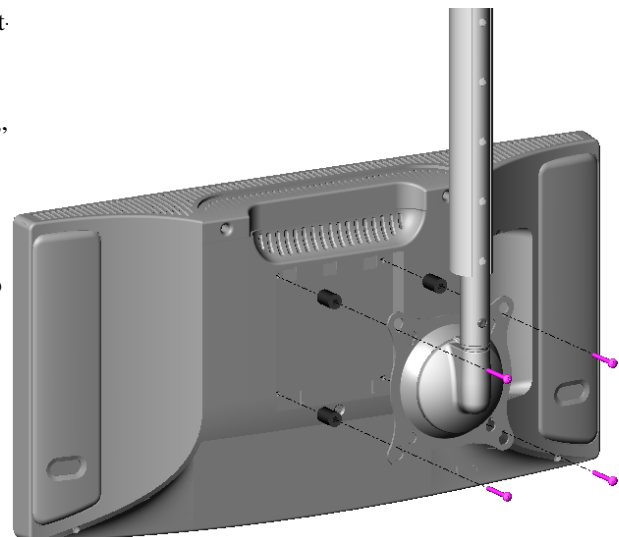

Figure 4. Install Recessed Mount Display on Bracket
1. Place four 1/2" X 3/8" Nylon spacers or four 1/2" X 3/4" Nylon spacers, as necessary, over the mounting holes of your display (see Figure 4).